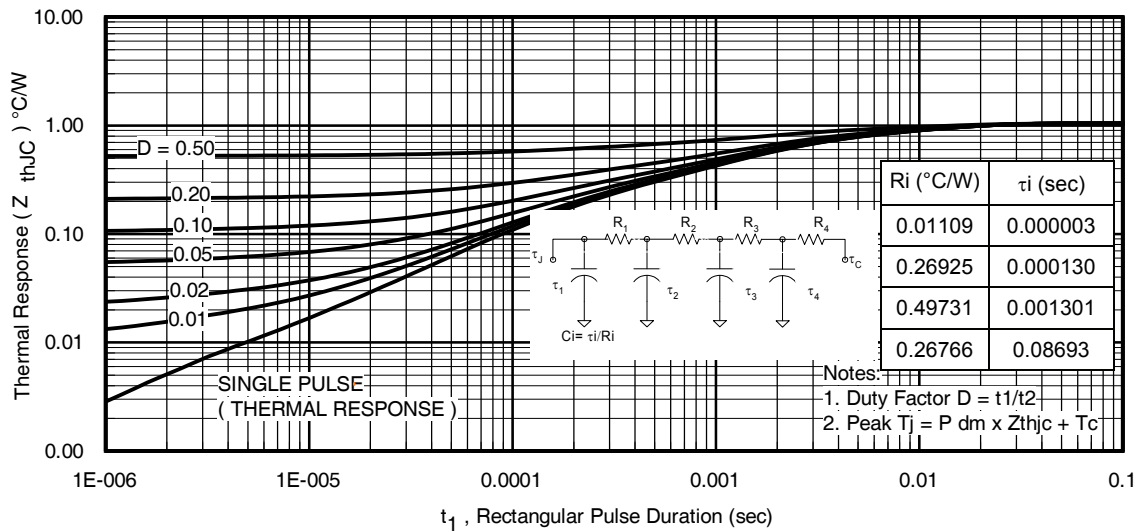

Fig 13. Maximum Effective Transient Thermal Impedance, Junction-to-Case
7. ΔT = Allowable rise in junction temperature, not to exceed Tjmax (assumed as 25°C in Figure 13, 14).
ZthJC(D, tav) = Transient thermal resistance, see Figures 13)